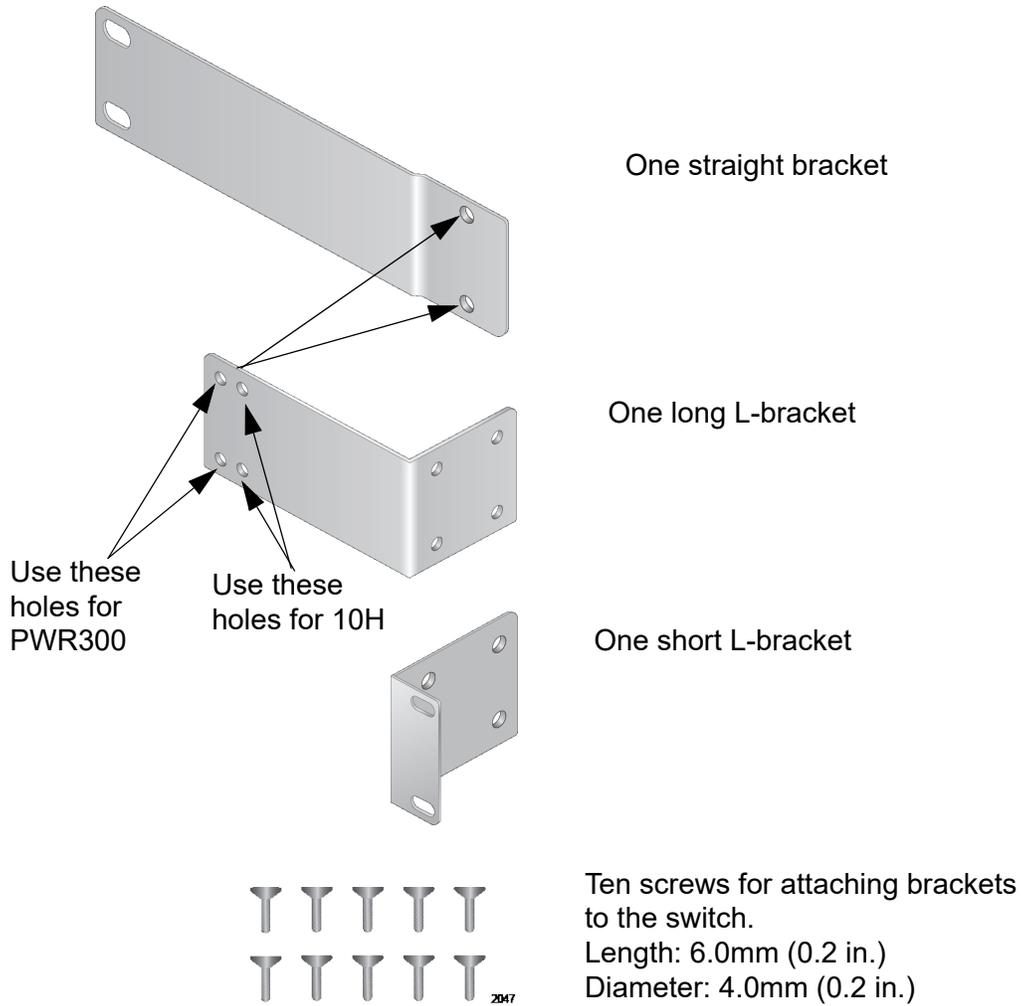

Figure 19. Rack Mount Kit
Figure 19 lists the items in the 19-inch rack mount kit that are included with the GS980EM/10H switch and PWR300 power supply. The holes specified in Figure 19 depend on the size of the device you are installing.
- One 19" rack mount kit (3 brackets, 10 screws) (included with the device) (see Figure 19 on page 74)